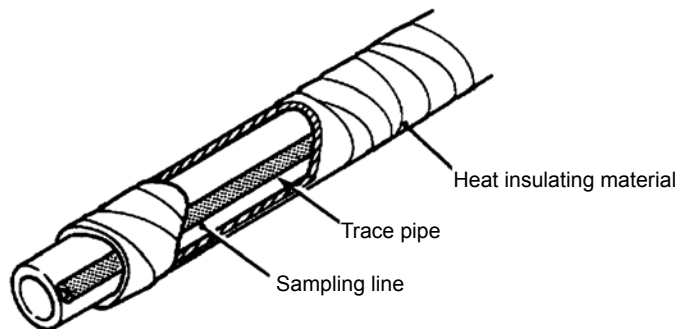

Figure 3.17 Steam Tracer Pipe
- (1) The tracer pipe of the sample liquid conduit should be installed such that the entire conduit can be heated. The pipe should also be covered with insulating material (see Figure 3.17).